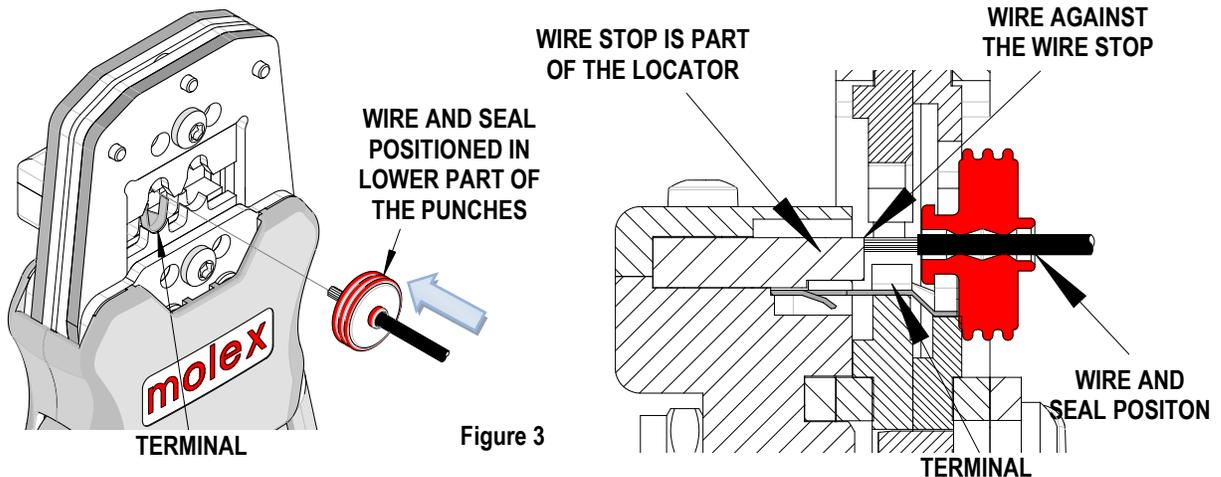

Figure 3
3. With the hand tool open, insert the properly stripped wire and seal under the punches into the lower part of the upper tooling, until the wire is against the wire stop. See Figure 3.